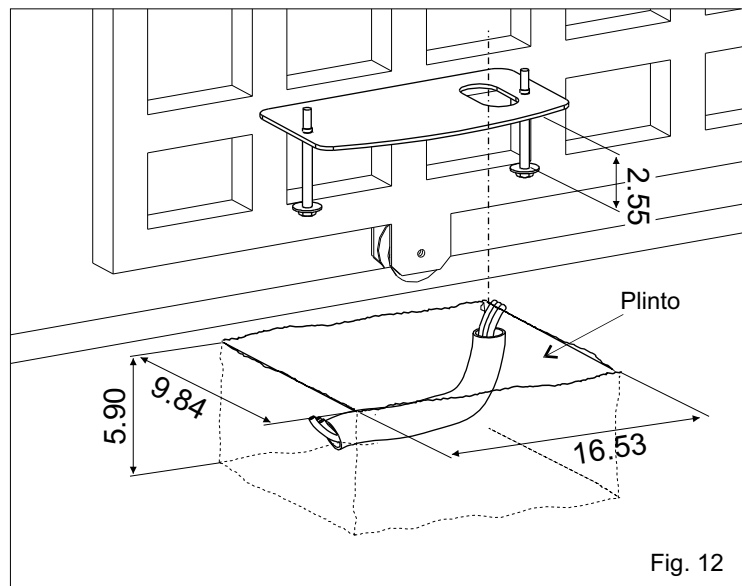

Fig. 12
4.1. Prepare a concret basement with the dimensions shown in Fig. 12 where the foundation plate and the anchor bolts will be concreted.